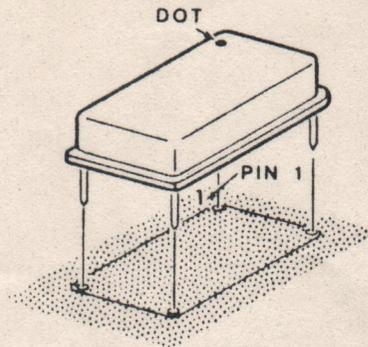

figure 3.1
(9) Install and solder the clock module. Note the dot in one of the corners of the module, this indicates pin one. As a further marking this corner is also squared off instead of rounded. Make sure pin one of the module goes in pin one of the PCB. Clip the module leads close to the board. See figure 3.1.